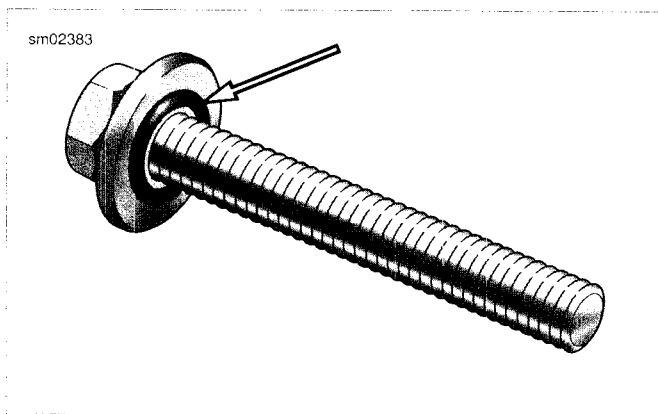

Figure 5-28. Sealing Fastener
3. See Figure 5-28. Insert **new** sealing fasteners.